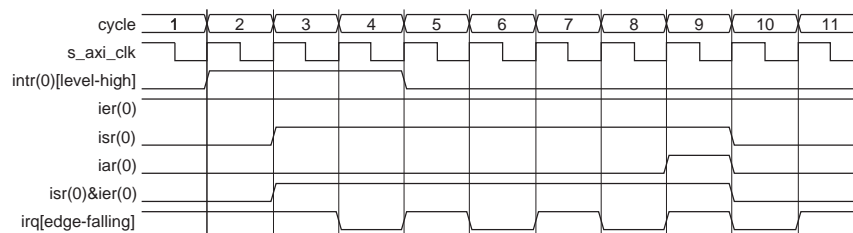

Figure 12: Input Intr - Level Sensitive (Active High) and Output Irq - Edge Sensitive (Falling)
2. Configured Input Interrupt (Intr) for Level sensitive (active High) and Output Interrupt Request (Irq) to Edge sensitive (falling) and is shown in Figure 12.